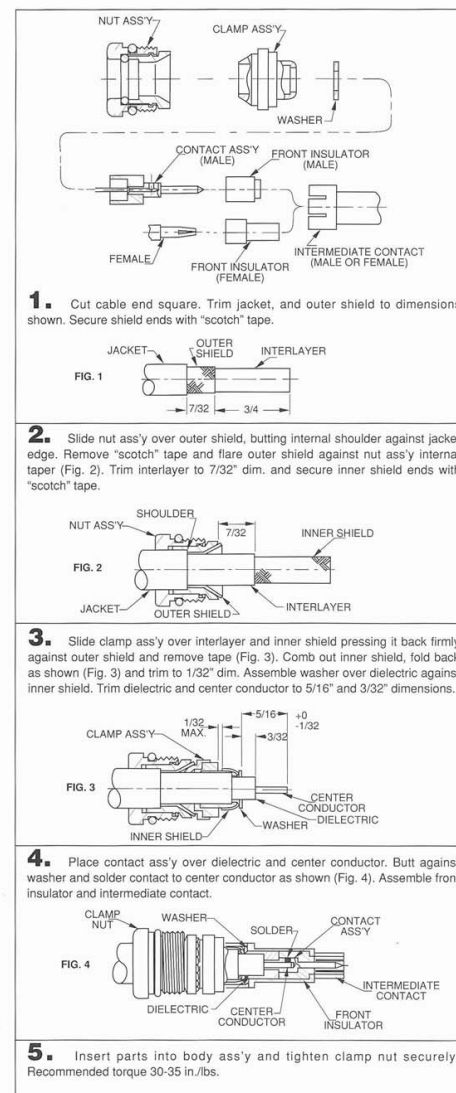

FIG. 1
1. Cut cable end square. Trim cable as shown in Fig. 1 and secure braid with scotch "magic" tape.